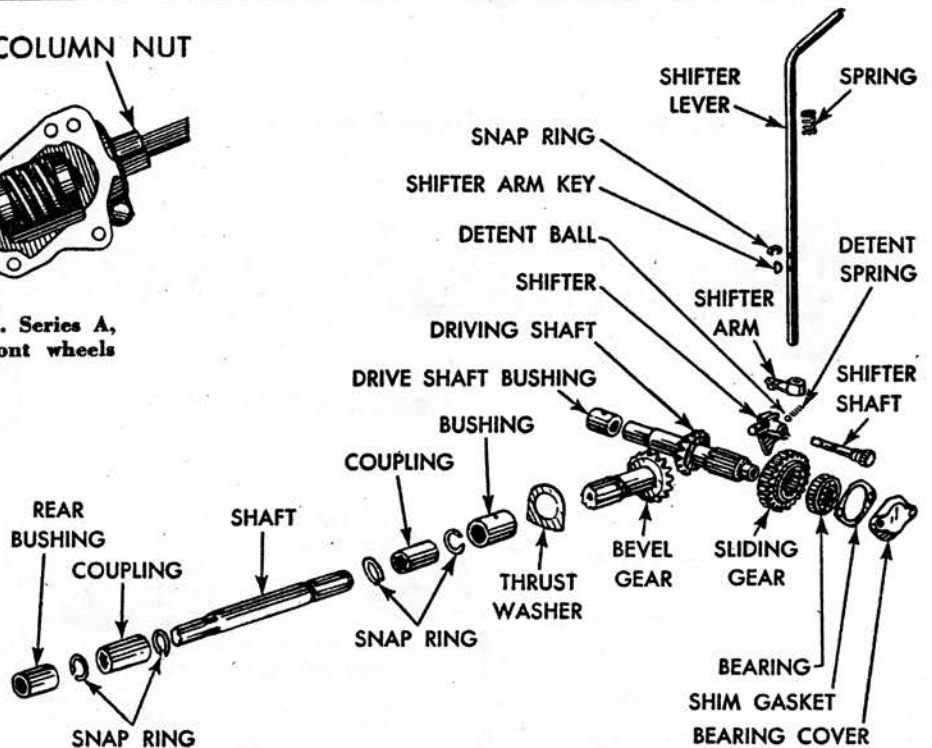

Fig. 56 Layout of P.T.O. drive. Series A, B
**DISASSEMBLY** — Figs. 56 and 57. Remove transmission cover and countershaft. Detach shifter arm from shifter lever. Unfasten right bearing cover. Shift driving shaft and bearing to right of case and pull bearing off shaft. Remove shaft and gears from top of case. The P. T. O. driven shaft may be pulled out of transmission case after taking off rear cover or power lift.